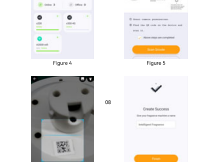

Figure 8
- Open [4G / WIFI] interface, then click [Create] (as Figure 8).